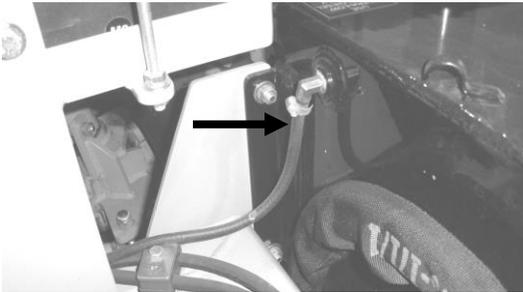

Figure 2—Fuel return hose.
3. Clamp the fuel return hose (**Figure 2**) closed using needle-nose pliers or a similar equivalent. The hose can be disconnected from the tank fitting and plugged if necessary. If the return hose is disconnected, also plug the tank fitting.